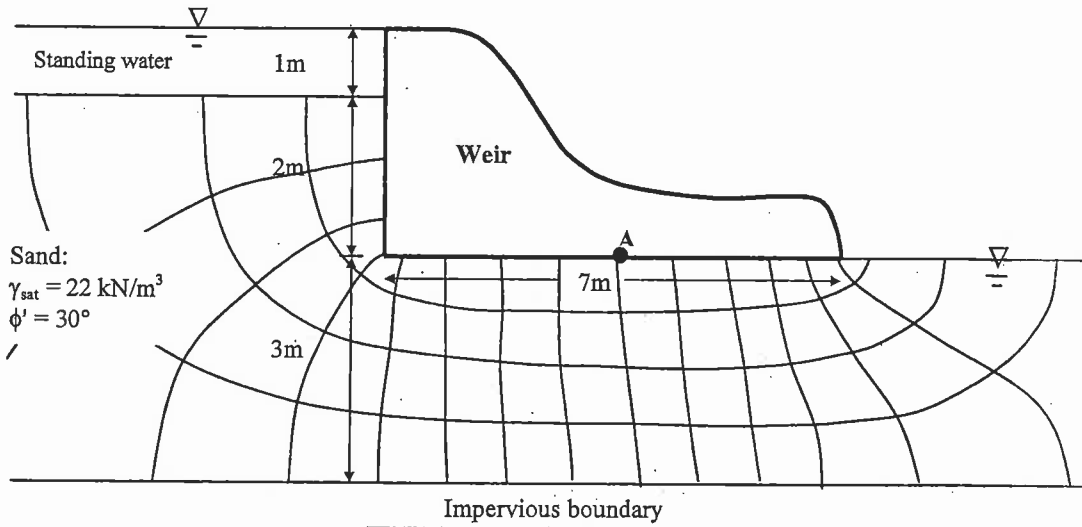

Figure Q.2
2. Fig. Q.2 below illustrates a weir under which seepage flow occurs. A flownet is drawn on the figure.